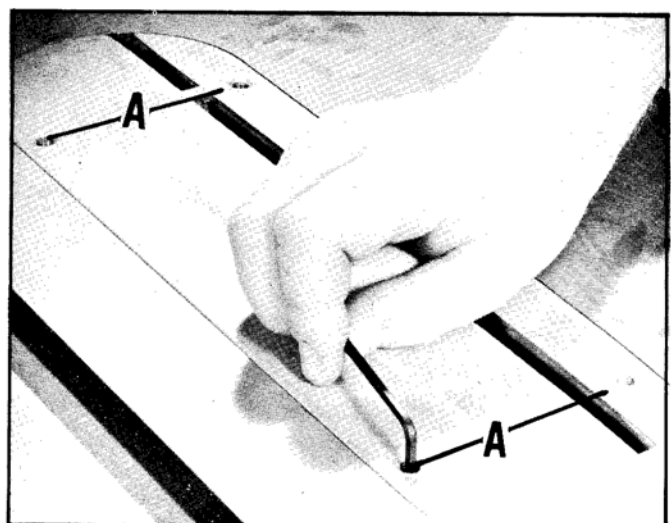

Fig. 14.
The table insert should always be flush with the table top. To adjust the table insert, turn the adjusting screws (A) Fig. 14, in or out.